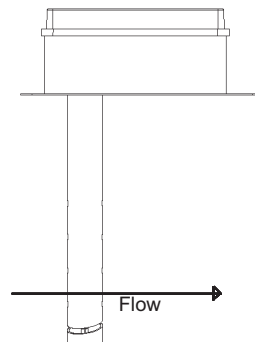

Figure 1. Flow direction
5. Temporarily replace the lid oriented so that the LED on the detector head is visible through the window. Put the tube through the hole in the duct, orient the unit so that the arrows on the lid point in the flow direction (see figure 1).